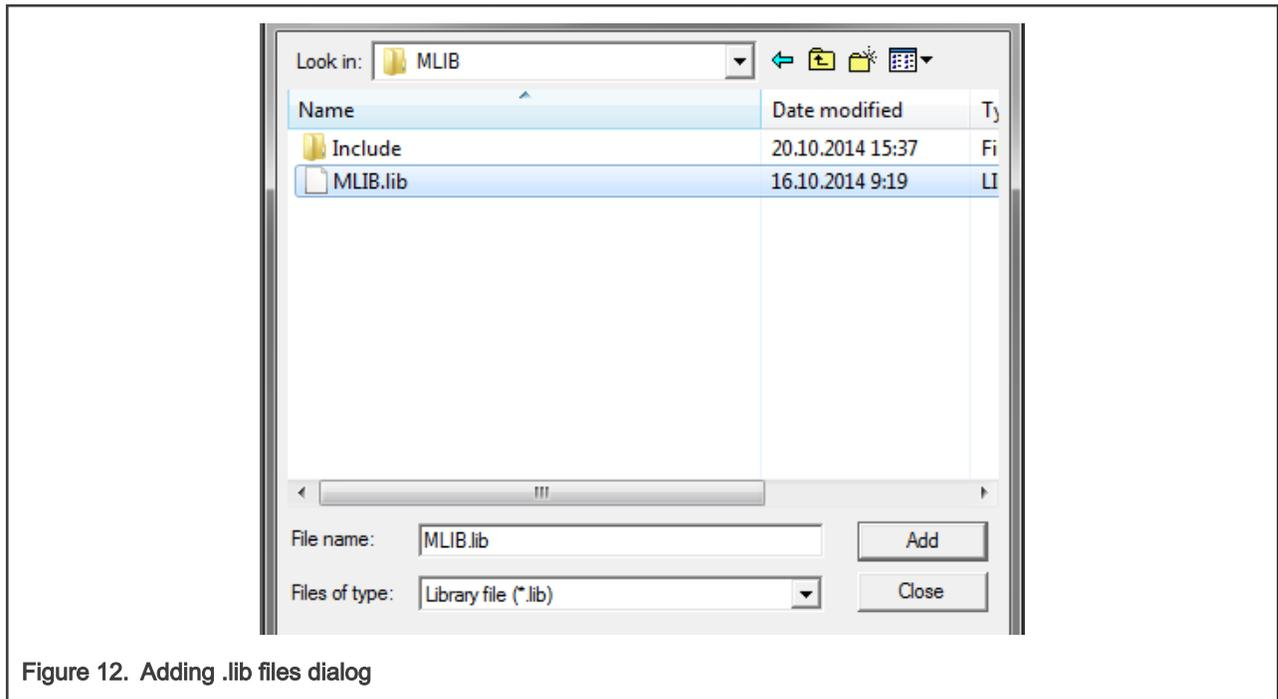

Figure 12. Adding .lib files dialog
- Navigate to the parent folder C:\NXP\RTCESL\CM0\_RTCESEL\_4.7\_KEIL\MLIB, and select the *mlib.lib* file. If the file does not appear, set the Files of type filter to Library file. Click Add. See Figure 12.